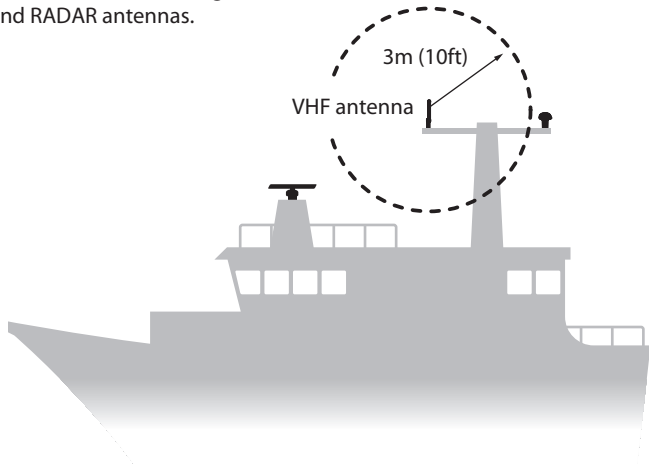

Figure 9 VHF Antenna Location
- Ideally the AIS VHF antenna should be mounted directly above or below the ship's primary VHF radiotelephone antenna, with no horizontal separation and with a minimum of 2m vertical separation. Refer to Figure 9 for further guidance.